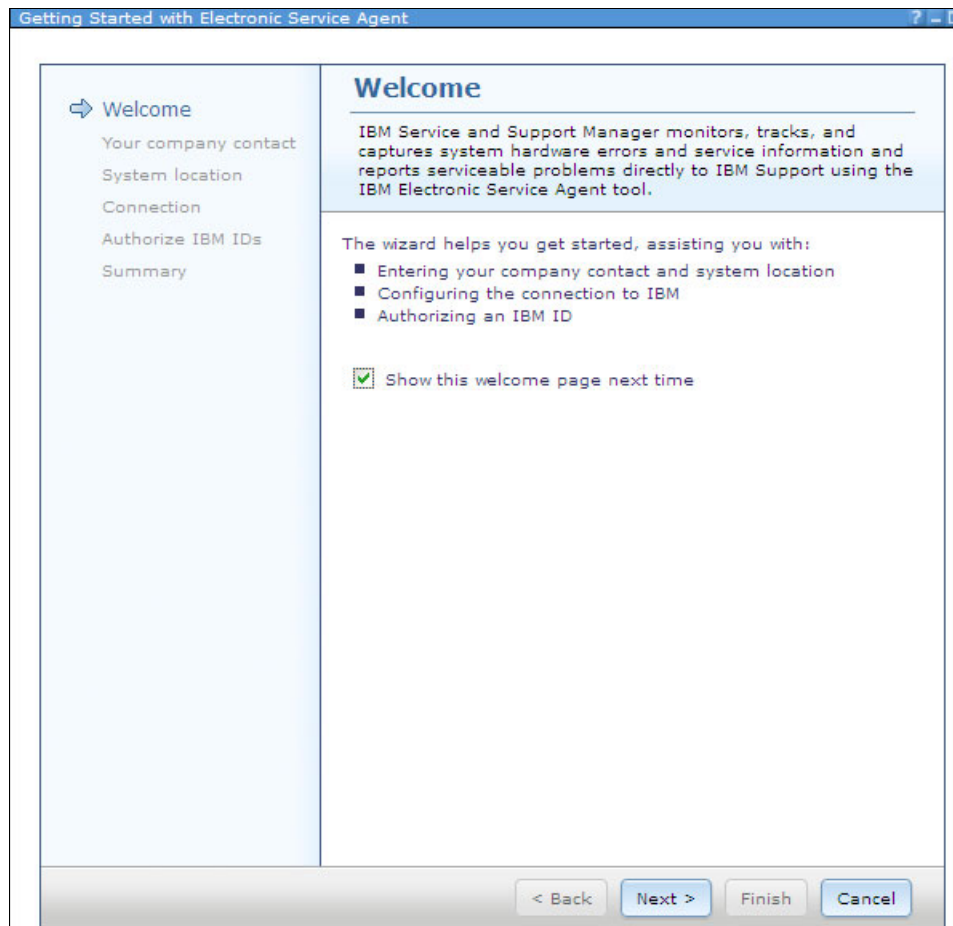

Figure 7-30 Getting Started with Electronic Service Agent Welcome window
3. Click **Next** in the Welcome window (Figure 7-30).